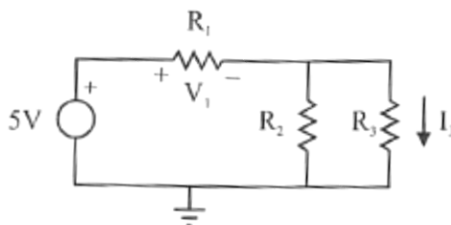

Figure 1.7 Resistor circuit schematic
3. Build the circuit shown in Figure 1.7 with the three given resistors on the breadboard. Note that R_1 is in series with the parallel combination of R_2 and R_3 .